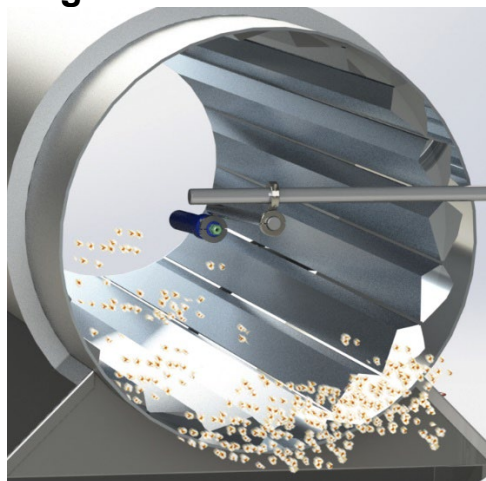

Fig 7
2. To obtain the maximum electrostatic efficiency the electrode needle on the electrostatic generating head should be positioned towards the centre of the drum and facing the tumbling product and powder cloud. (see page 14 - Fig 7)